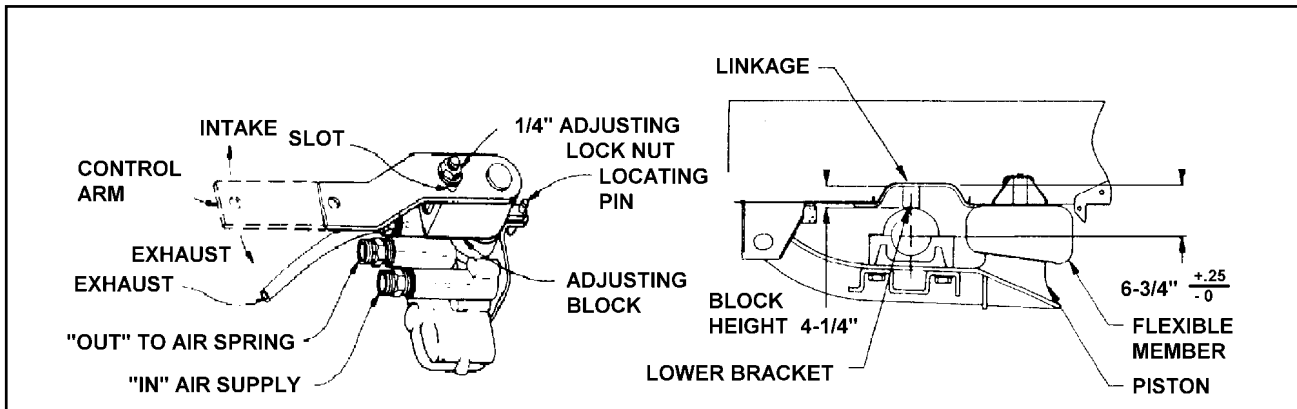

Figure 4-6 Air Ride Height Adjustment
4-7.2 Air Ride Height Adjustment (See Figure 4-6 for parts identification).
- e. Move the control arms to the "down" position (about 45°) for 10-15 seconds. Slowly return the control arms to the center position and insert locating pins into the adjusting block and bracket on the automatic height control valves (**See Figure 4-6**).